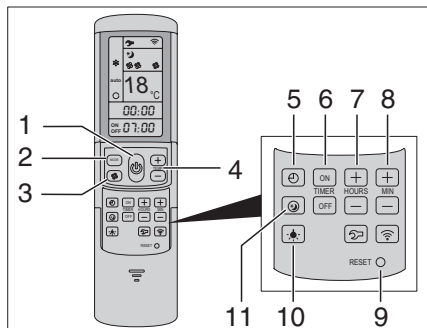

Fig. 163 Remote control
The air conditioning unit is located on the roof of the vehicle. The remote control (Fig. 163) for the air conditioning unit is located in the kitchen area.
The air conditioning unit is ready to operate. The blue LED (Fig. 163,1) lights up.
- ▶ To switch on press the button (Fig. 163,1) on the remote control. The blue LED (Fig. 163,1) flashes.
- ▶ Set the desired operating mode using the MODE button (Fig. 163,2).
- ▶ If necessary, set the desired fan level by using the button (Fig. 163,3) and the room temperature by using the buttons (Fig. 163,4).
- ▶ When the temperature set on the remote control is reached, the blue LED (Fig. 163,1) goes out, the compressor switches off and the circulation fan continues to run.
- ▶ To switch off press the button (Fig. 163,1) on the remote control again.
- ▶ To carry out programming, switch on the air conditioning unit by using the button (Fig. 163,1) on the remote control.
- ▶ Set the desired operating mode by using the button (Fig. 163,2) and the room temperature by using the buttons (Fig. 163,4).
- ▶ Use the buttons (Fig. 163,6) to select the desired function:
- ▶ Use the buttons (Fig. 163,7 and 8) to select the desired switching time (15 minutes to 24 hours).
- ▶ Confirm the setting with the buttons "ON" or "OFF" (Fig. 163,6).